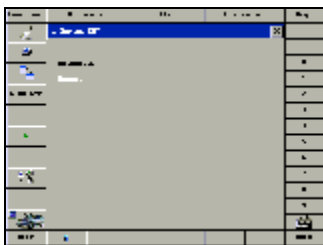

Fig.3.33
5. Select **Automatic** or **Manual** (see Fig.3.33). **Automatic** means the vehicle systems will be automatically detected by Star system while **Manual** means the user will input the vehicle information.